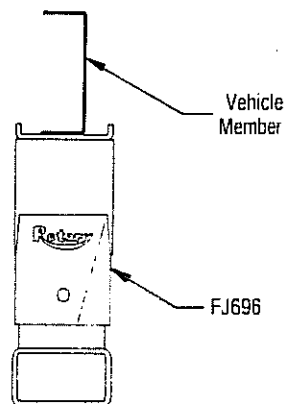

FIG. 11
2. FJ696 adapters are made to contact the flat areas of the vehicle's frame, spring hanger, or other members that will fit within the retaining ribs atop the adapter. Never on sloped members. Adapter must cradle the vehicle members, Fig. 11.